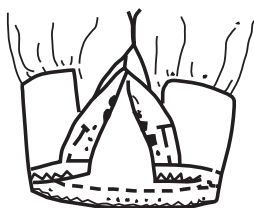

Figure 25
- a. Sew on 5/8 in. with straight stitch. Zigzag stitch the seam 1/4 in. from seamline and trim seam allowance close to stitching (Figure 25).